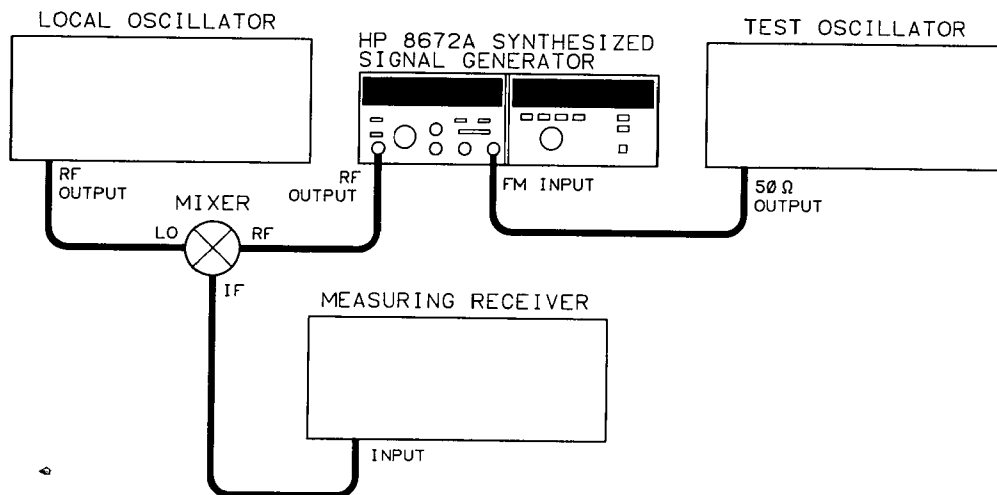

Figure 4-21. Incidental AM Test Setup
1. Connect the equipment as shown in Figure 4-21.